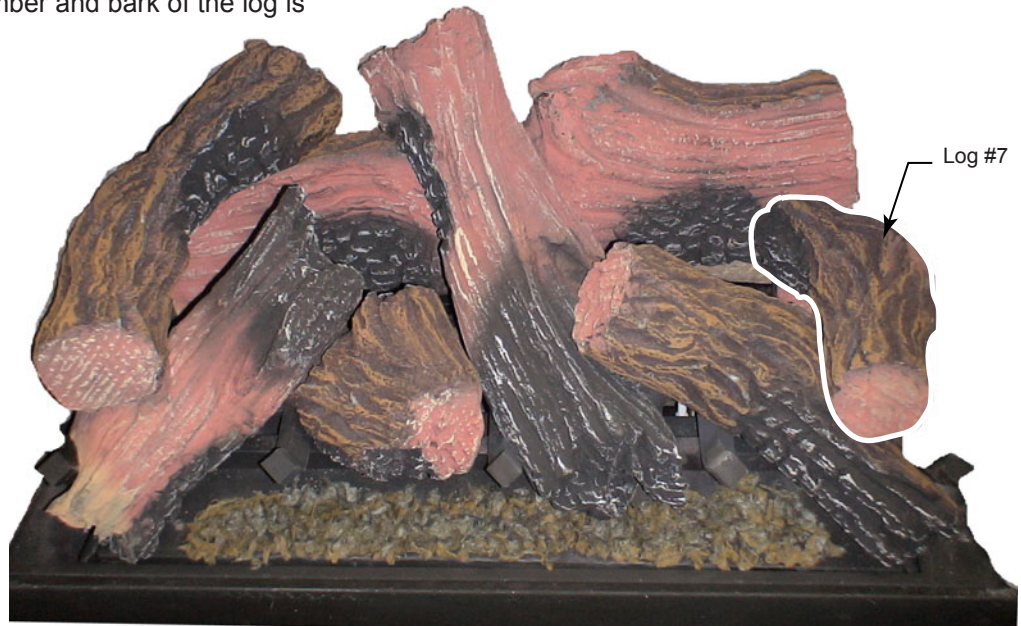

Figure 29
9. Install log #7 onto log #6 by placing the rectangular notch on the bottom of log #7 onto the rectangular protrusion on log #6. Make sure the ember and bark of the log is facing in. *Figure 29*
3. Place stones on glass randomly as desired. *Figure 29*